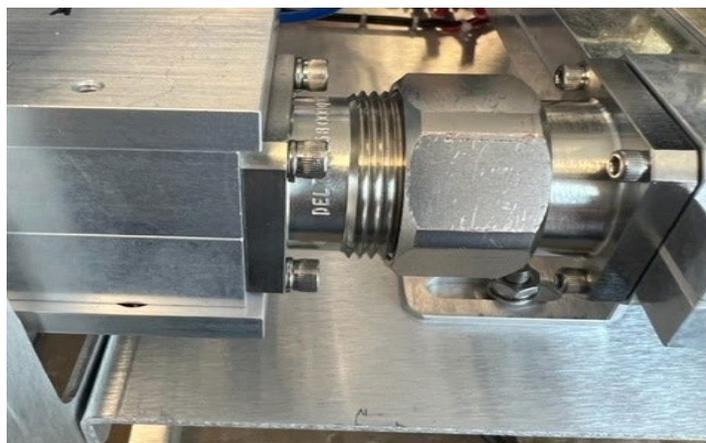

Figure 4
8. Ensure that the 7-16 male connection is completely unthreaded from the directional coupler (Figure 4).